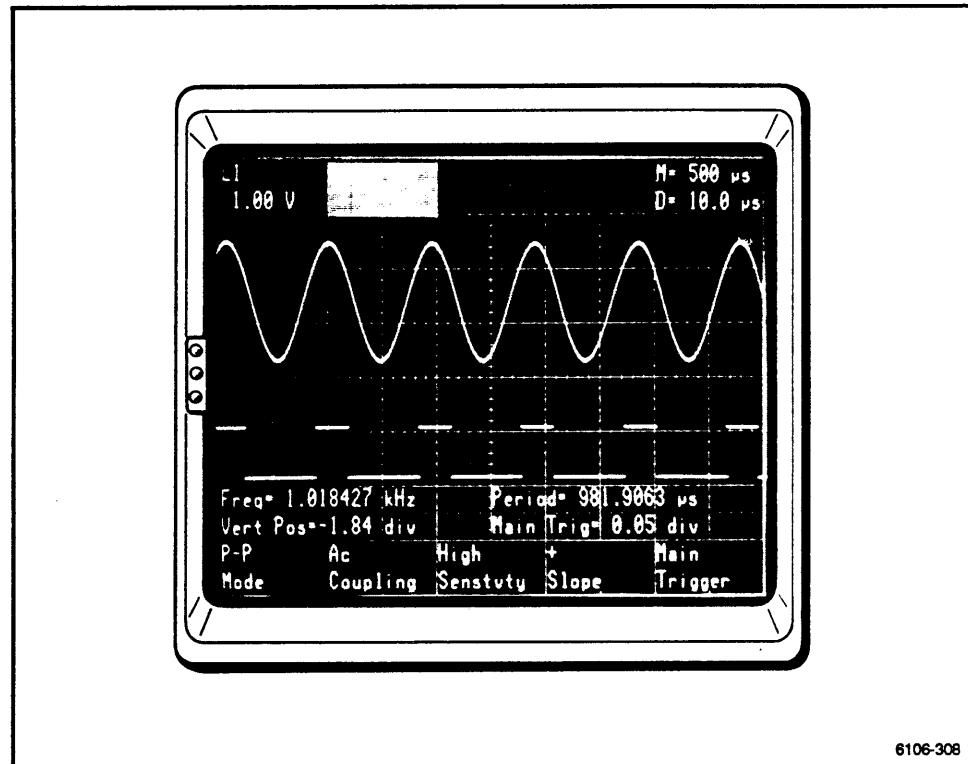

Figure 2-109. Two traces vertically separate.
4. Use VERTICAL POS to vertically separate the two traces. (See Fig 2-109.)